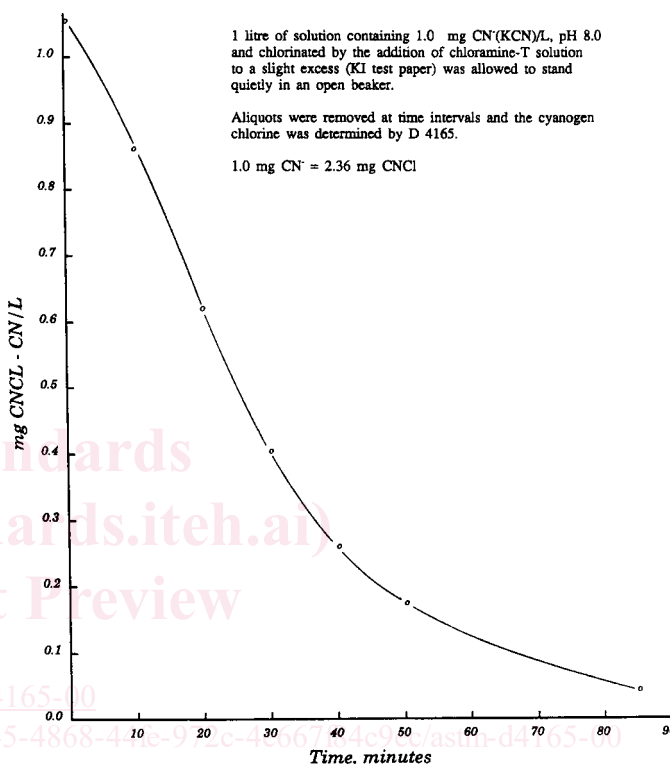

FIG. 1 Cyanogen Chloride Stability
1.2 Cyanogen chloride is unstable. A quick test using a spot plate or comparator as soon as the sample is collected may be the best test, reducing the loss of cyanogen chloride during the time lapse between sampling and analysis. (See Fig. 1 for a typical decay curve for cyanogen chloride in a solution.)